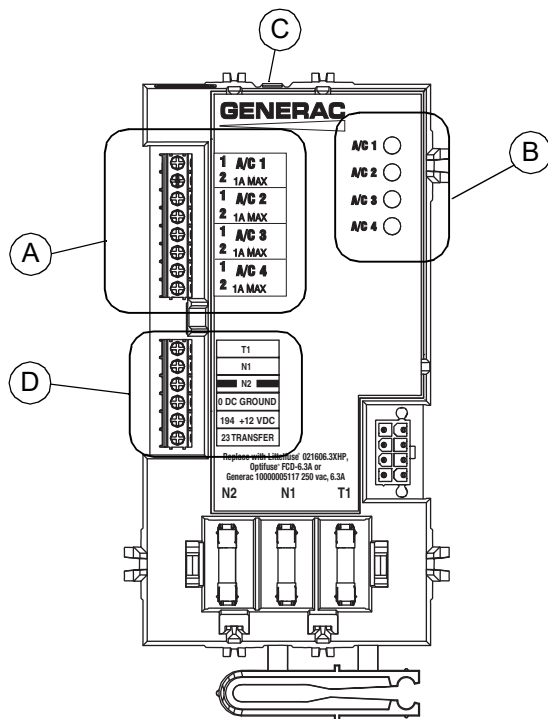

Figure 2-3. Smart A/C Module (SACM)
See Figure 2-3. Priorities A/C 1-4 (A) have connections for an air conditioner. To control an air conditioner, no additional equipment is required. Internal normally closed relays interrupt the 24 VAC thermostat control signal to disable the air conditioner load.
See Figure 2-3. The SACM has a test button (C) used to simulate an overload condition. This button operates even when the transfer signal is inactive. The Generator Control Wiring is connected to terminals (D).